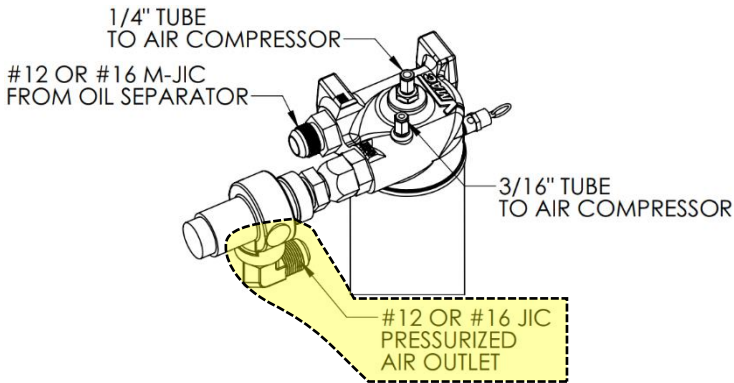

Figure 13 – Air Outlet
- The end user may choose and install their preferred outlet fitting onto the pressurised air outlet fitting on the coalescing filter (Figure 13) . The outlet is a female NPT located on the minimum pressure check valve. VMAC recommends attaching a MNPT to MJIC to connect to a hose with JIC swivel fittings. VR90 and lower air flow units use #12/ 3/4” sized fittings and VR130 and larger air flow units use #16/1” sized fittings.